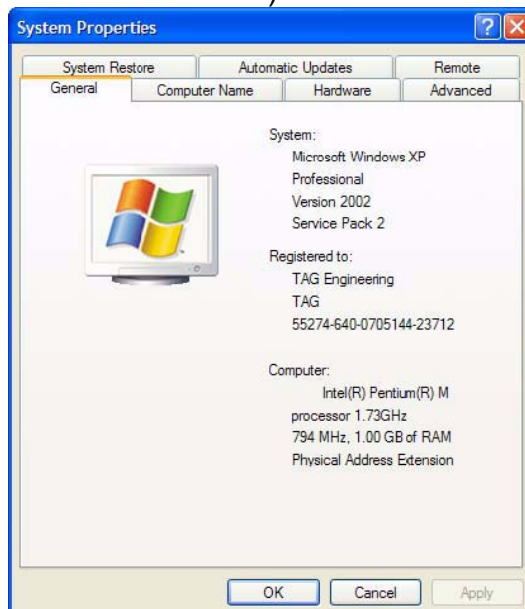

Figure 7-2 System Properties
2. Double-click the **System** icon in the **Control Panel** page to open system properties. (Figure 7-2).